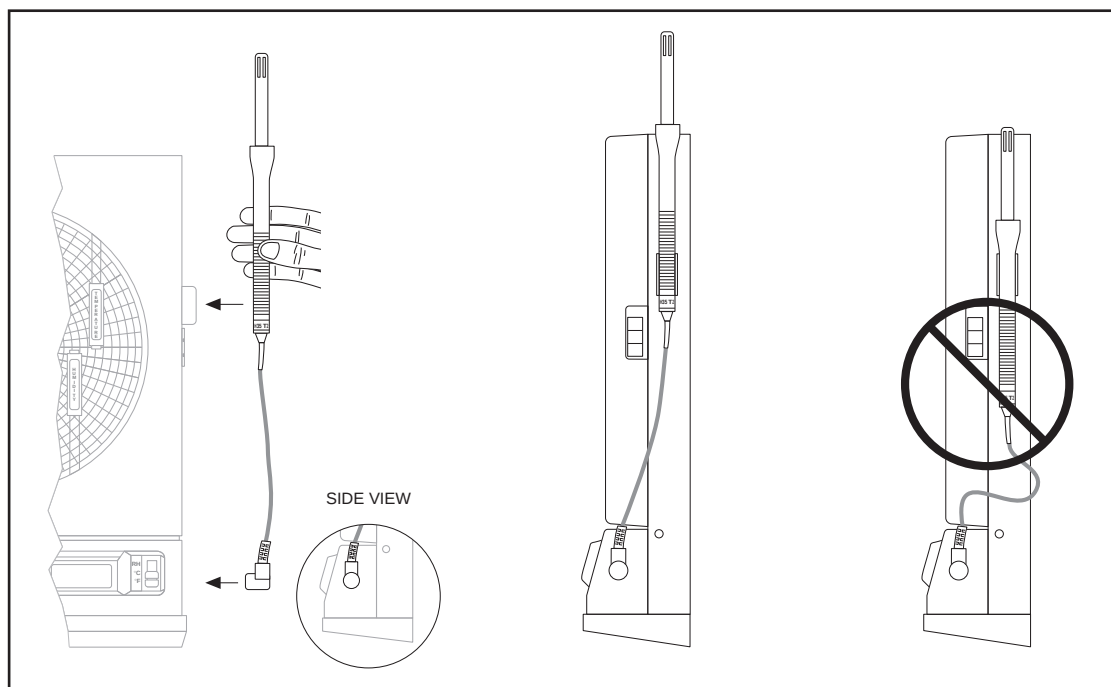

Figure 2-15. Attaching the Sensor (left picture), Correct Position (center), Incorrect Position (right)
1. Place the handle part of the sensor in in to the sensor clip on the side of the recorder as shown in Figure 2-15.
3. Slide the sensor up so that the sensor vents are well above the top of the case. Refer to the center picture in Figure 2-15.